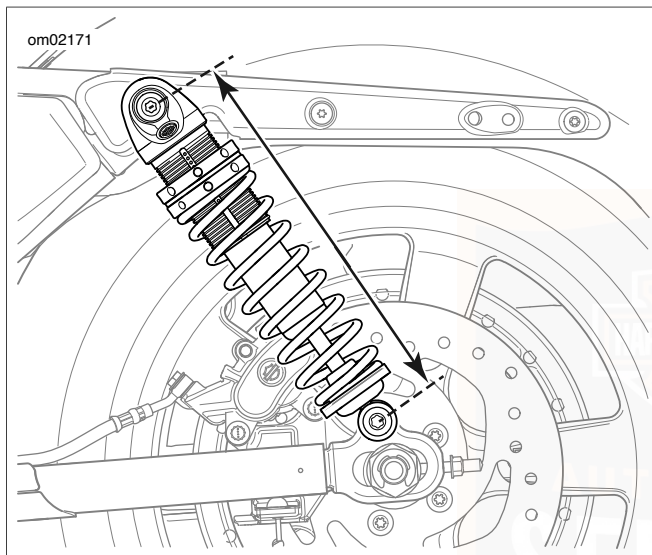

Figure 26. Shock Absorber Length
- a. **All except XL1200T and XL1200CX:** See Figure 26. Measure from the center of the lower shock mounting bolt to the center of the upper mounting bolt. Compare the measurement to the identification table to determine if your motorcycle has low, medium or tall shock absorbers. Refer to Table 21.